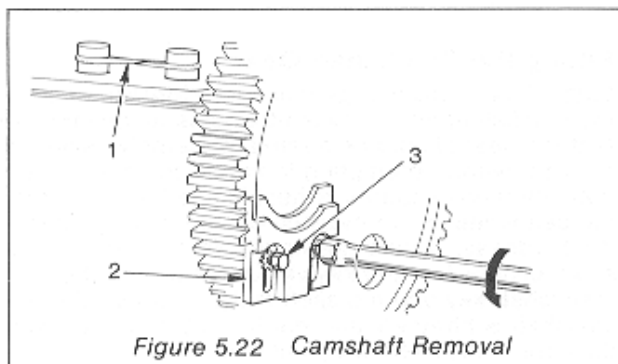

Figure 5.22 Camshaft Removal
## CAMSHAFT (Figure 5.22)
- (1) Ensure that all bearing surfaces are clean and lubricated before inserting the camshaft and governor assembly.
- (2) Fit the valve tappets and hold in position using a rubber band or string (Figure 5.22).